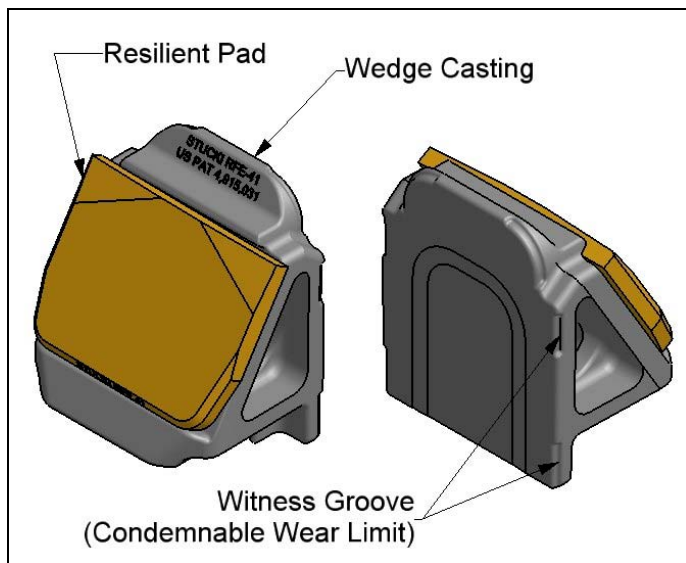

Figure 1
The RFE-41 assembly (Fig. 1) consists of an austempered ductile iron wedge element and a resilient urethane pad affixed to the sloped face of the wedge. The two pieces lock together by means of an interlocking "waffle" arrangement at the interface and an interlocking post on the pad which is retained by a tapered hole on the sloped face of the wedge. Along each edge of the vertical (or wearing) face of the wedge are witness grooves to indicate the allowable wear limits.
1. Check wear limit indicators (Fig. 1). The wedge must be replaced when either witness groove has been worn away and is no longer visible.